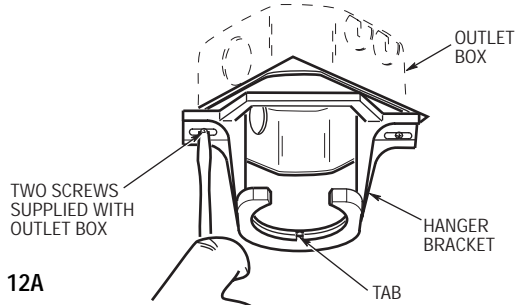
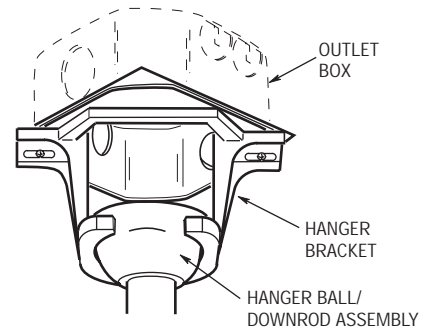

Figure 12A
Figure 13A
- 18. Securely attach the hanger bracket to the outlet box using the two screws supplied with the outlet box (Figure 12A).
- 19. Carefully lift the fan and seat the hanger ball/downrod assembly on the hanger bracket that was just attached to the outlet box (Figure 13A). Be sure the groove in the box is lined up with tab on the hanger bracket (Figure 12A).